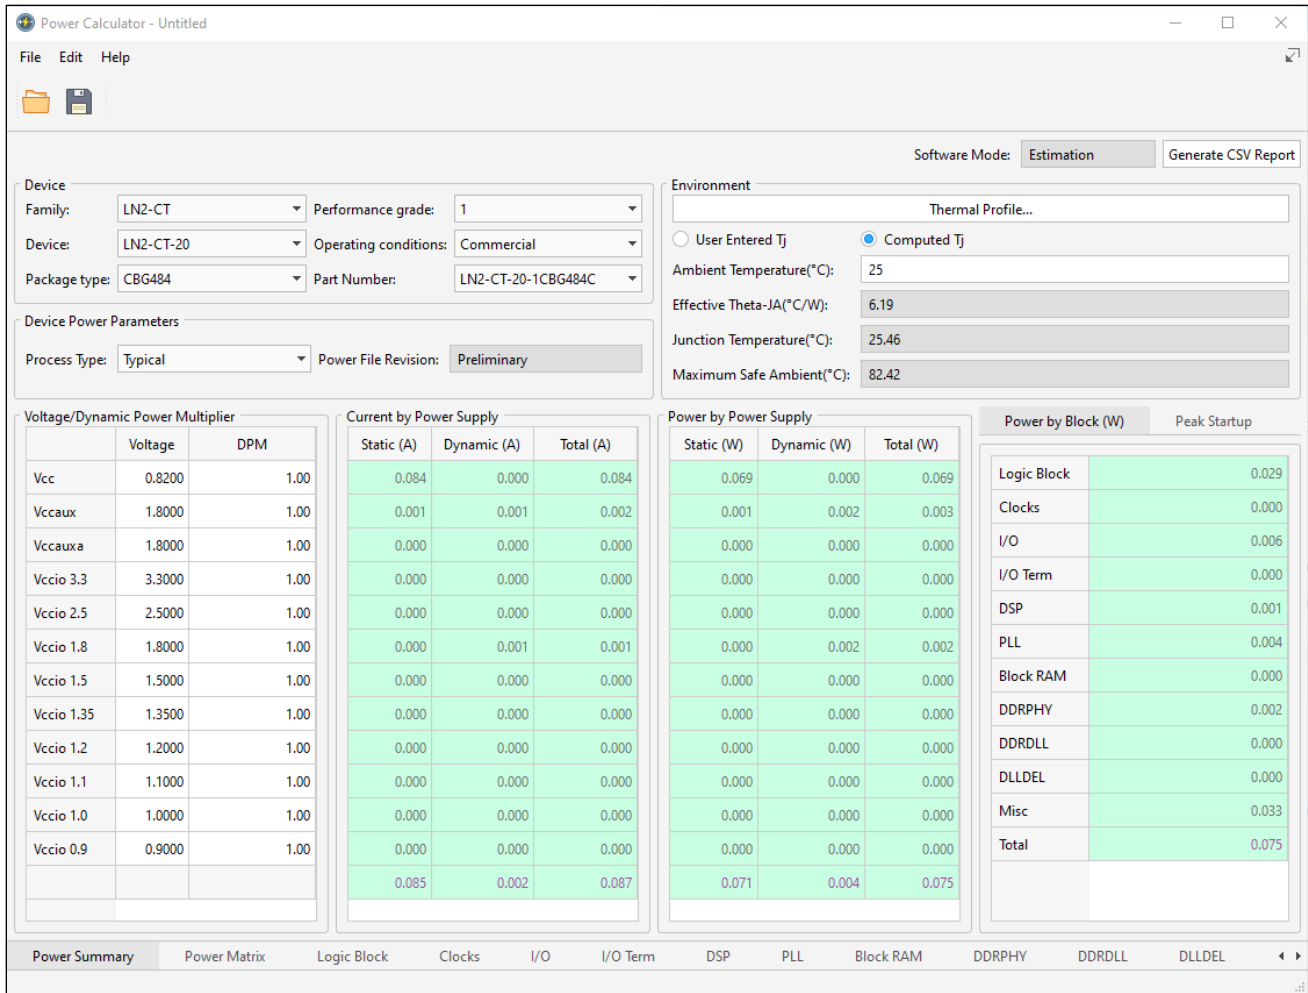

Figure 2.1. Power Calculator (Summary Tab for Nexus 2 Devices)
- Figure 2.1. Power Calculator (Summary Tab for Nexus 2 Devices) 7
The power calculator main window opens in the Estimation mode or Calculation mode, depending on the design stage, and displays the Power Summary page as shown in Figure 2.1.